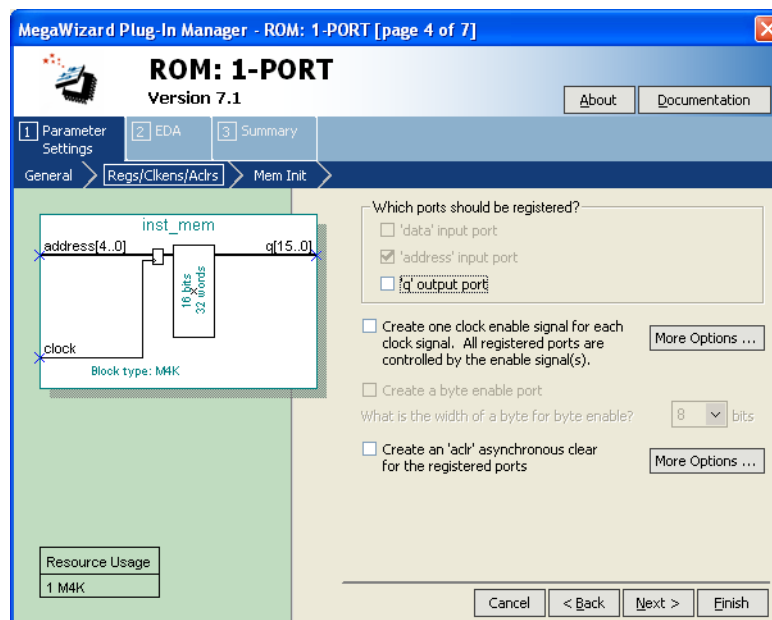

Figure 5. ROM: 1-PORT configuration.
2. Generate a top-level Verilog file that instantiates the processor, memory, and counter. Use the Quartus II MegaWizard Plug-In Manager tool to create the memory module from the Altera library of parameterized modules (LPMs). The correct LPM is found under the *Memory Compiler* category and is called *ROM: 1-PORT*. Follow the instructions provided by the wizard to create a memory that has one 16-bit wide read data port and is 32 words deep. Page 4 of the wizard is shown in Figure 5. Since this memory has only a read port, and no write port, it is called a *synchronous read-only memory (synchronous ROM)*. Note that the